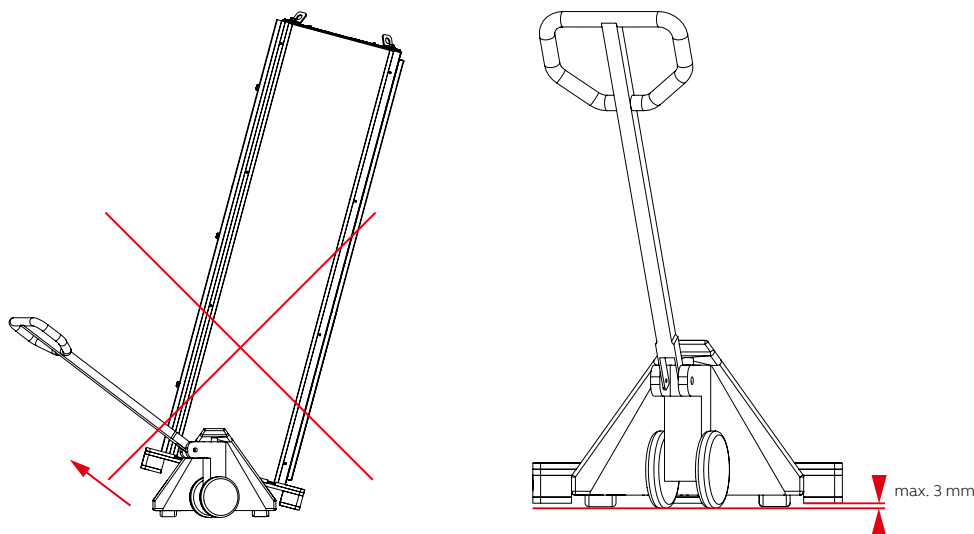

Figure 3-15 Transport with a hand-pulled truck
- Tilting and canting must be avoided (see Figure 3-15).
Sections may easily tip over when transported with a hand-pulled truck. Therefore the distance between the wooden cross beam or the pallet and the ground should not be more than 3 mm (see Figure 3-15).